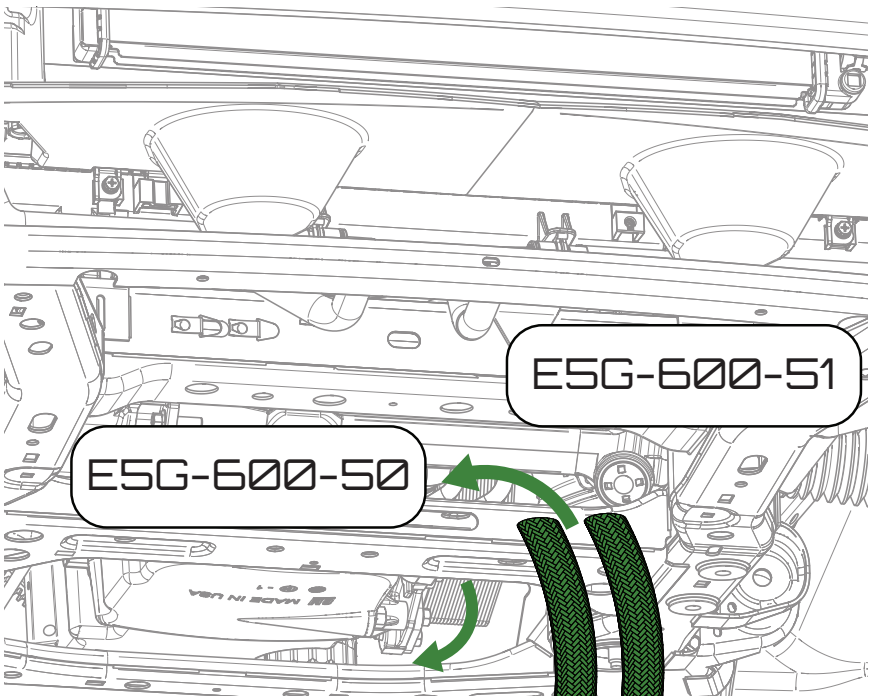

Figure 14 - Routing the Oil Lines Rearwards
17. Grab the oil lines and route them towards the back of the car as shown in Figure 14.